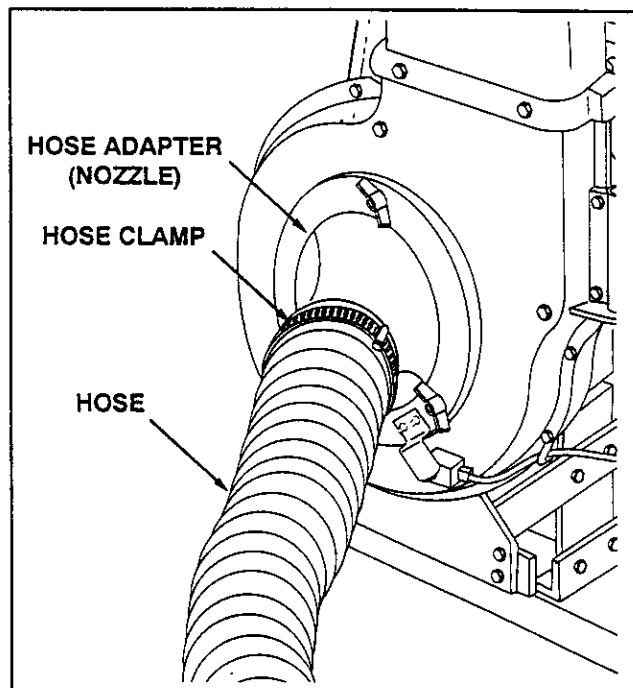

FIGURE 25
- Place one hose clamp over end of hose and push hose onto the hose adapter (nozzle). Secure by tightening screw on hose clamp. **Do not collapse hose adapter when tightening.** See figure 25.